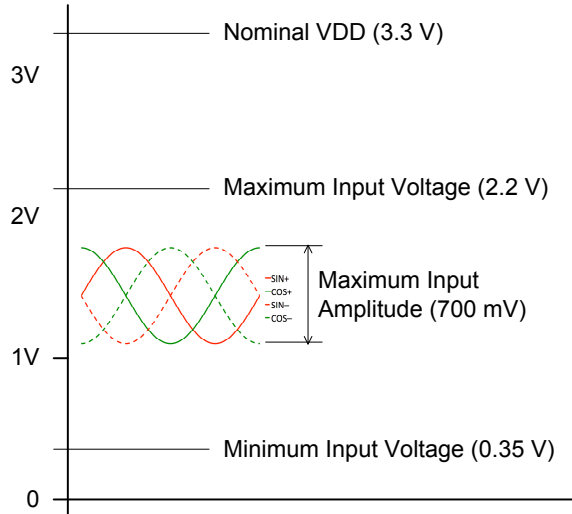
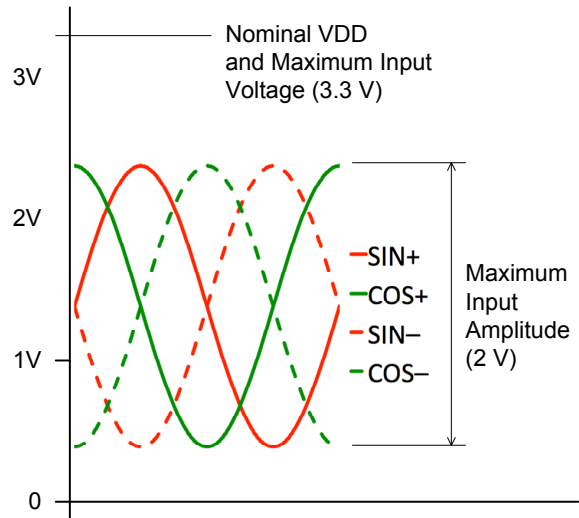

Figure 27: Low Input Range Signals
Figure 28: High Input Range Signals
**Low input range** accepts 20 – 700 mV peak amplitude differential sin/cos signals (10 – 350 mV peak amplitude per + or – input), as shown in Figure 27.
**High input range** accepts 65 mV – 2.0 V peak amplitude differential sin/cos signals (32.5 mV – 1.0 V peak amplitude per + or – input) as shown in Figure 28.
The common-mode (DC) voltage of the individual sensor inputs must not exceed the specified common mode range (spec. item 103) or be such that the peaks of the sin/cos signals exceed the maximum input voltages shown in Figure 27 and Figure 28.